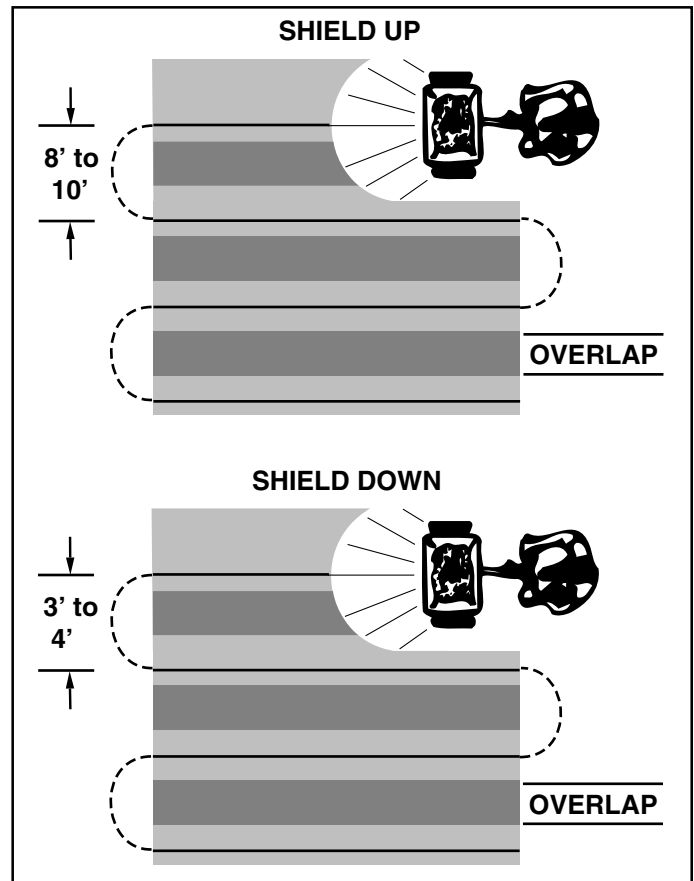

FIGURE 17
9. To insure uniform coverage, make each pass so that the broadcast pattern slightly overlaps the pattern from the previous pass as shown in figure 17. The approximate broadcast widths for different materials are shown in the application chart on this page.